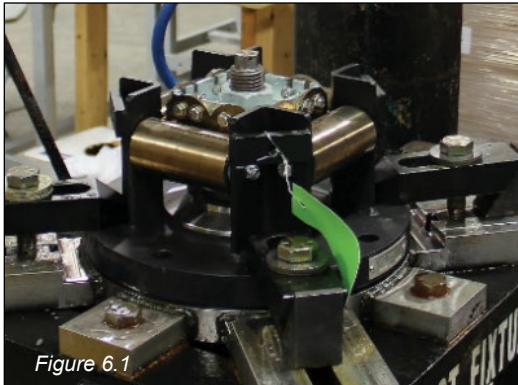

Figure 6.1
1. After the appropriate gasket style has been determined and applied to the test stand, securely clamp the valve onto the test stand (*Figure 6.1 and 6.2*). Rotate the adjustment screw counterclockwise to lower the spring block, approximately halfway between the initial spring engagement location and the dwell location. Raise the pressure in the test stand and leak test the mating surface between the valve flange and the test stand, as well as any test stand fittings to ensure the device is not losing air at any point. Release the air from the test stand. If any leaks exist, repair them, and retest the system.